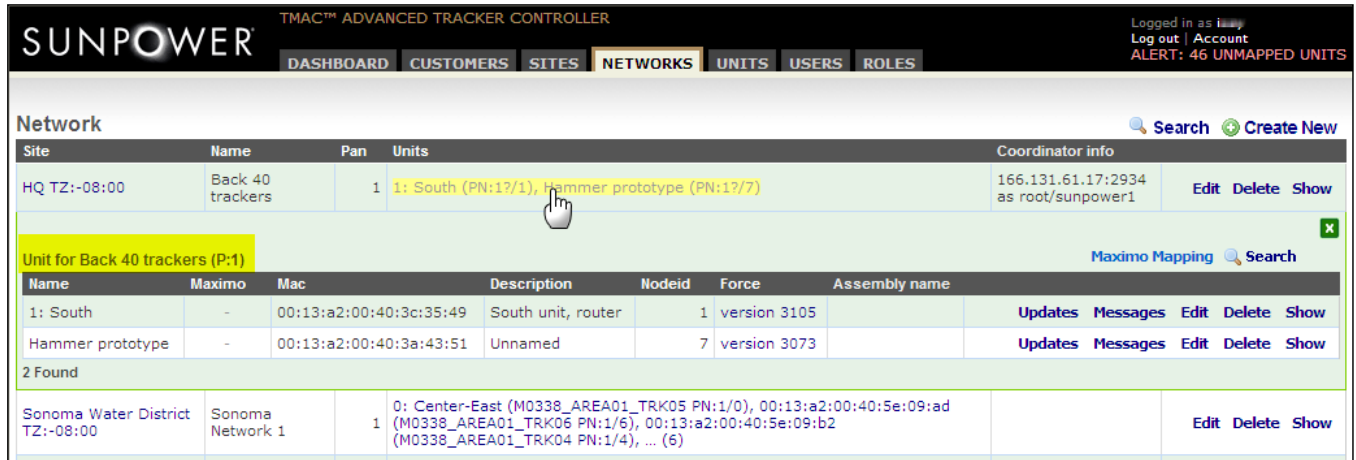

Fig. B31
3. Click the DTMAC unit link under the **Units** column to open the **Unit for [Network name]** window (Fig. B31).